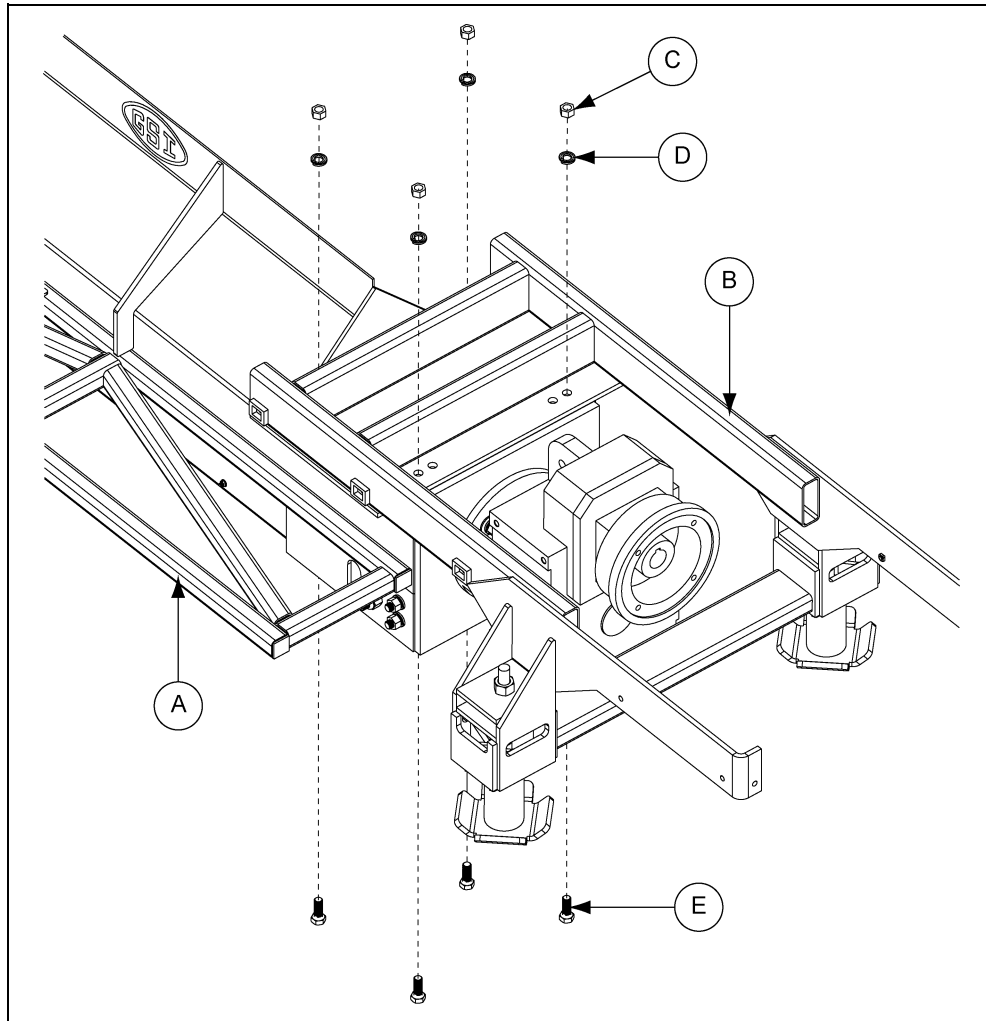

Figure 7Y
1. Attach suitable lifting device and lift the motor mount frame (B) onto the shield (A).
2. Fasten motor mount frame to shield using hex bolts (E), lock washers (D) and hex nuts (C).
- (See Figure 7Y.)